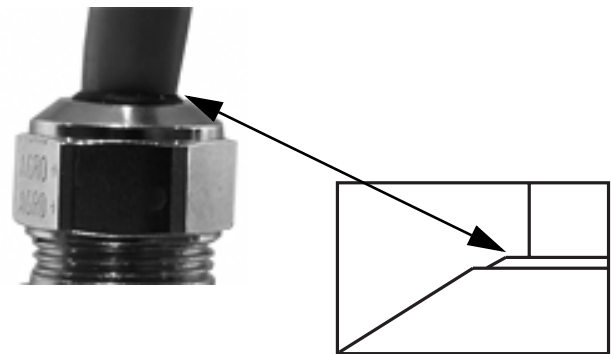

Figure 2-3. Proper Cord Grip Compression
8. Lower the domed cap onto the cord grip stem and tighten until a small swelling of the rubber of the reducing gland appears between the domed cap and cable (see Figure 2-3).
9. Lower the domed cap onto the cord grip stem and tighten until a small swelling of the rubber of the reducing gland appears between the dome cap and the cable. See Figure 2-3 on page 8.
6. Lower the domed cap onto the cord grip stem and tighten until a small swelling of the rubber of the reducing gland appears between the domed cap and the cable (see Figure 2-3 on page 8).
6. Tighten until a small swelling of the rubber between the domed cap and the cable builds (see Figure 2-3 on page 8).